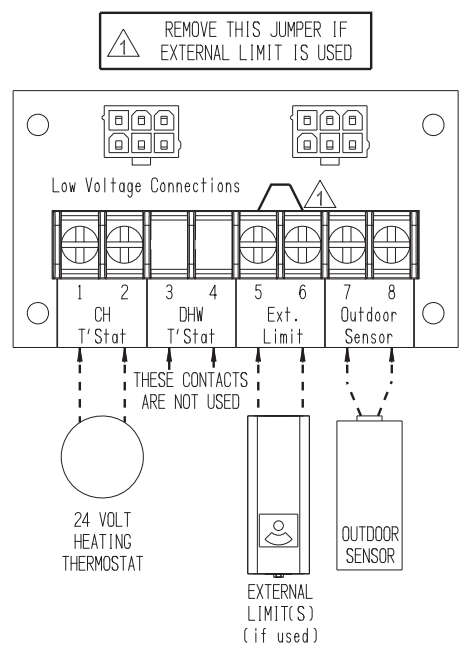

Figure 11.3: Low Voltage PCB Terminal Connections
NOTICE This boiler is equipped with a listed high water temperature limit function. This limit provides boiler shutdown in the event the boiler water temperature exceeds the set point of the limit control. Certain Local Codes require an additional water temperature limit. If necessary, install an additional water temperature limit such as a Honeywell L4006 Aquastat. Wire as indicated in Figure 11.3.
2. Low Voltage Connections – Commonly used low voltage field connections are located on the low voltage PCB and are shown in Figure 11.3 and listed from left to right:
- 5 External Limit - Field supplied low voltage safety limit contacts (1)
- 6 External Limit - Field supplied low voltage safety limit contacts (2)
- 7 Outdoor Sensor - Tasseron TSA00AA Outdoor Temperature Sensor (1)
- 8 Outdoor Sensor - Tasseron TSA00AA Outdoor Temperature Sensor (2)